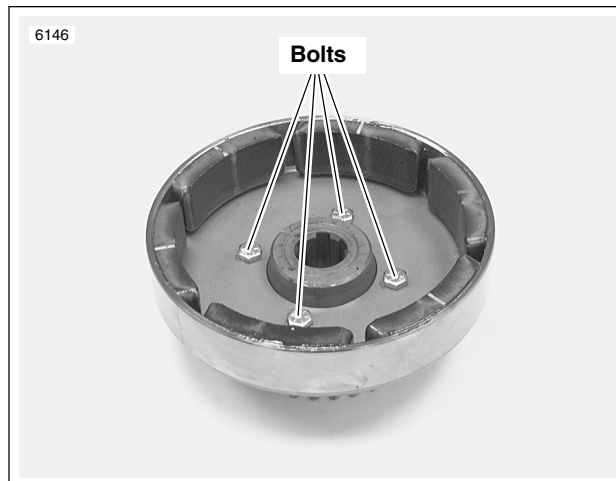

Figure 7-44. Rotor Assembly
1. See Figure 7-44. Remove the four bolts which secure alternator rotor to engine sprocket.